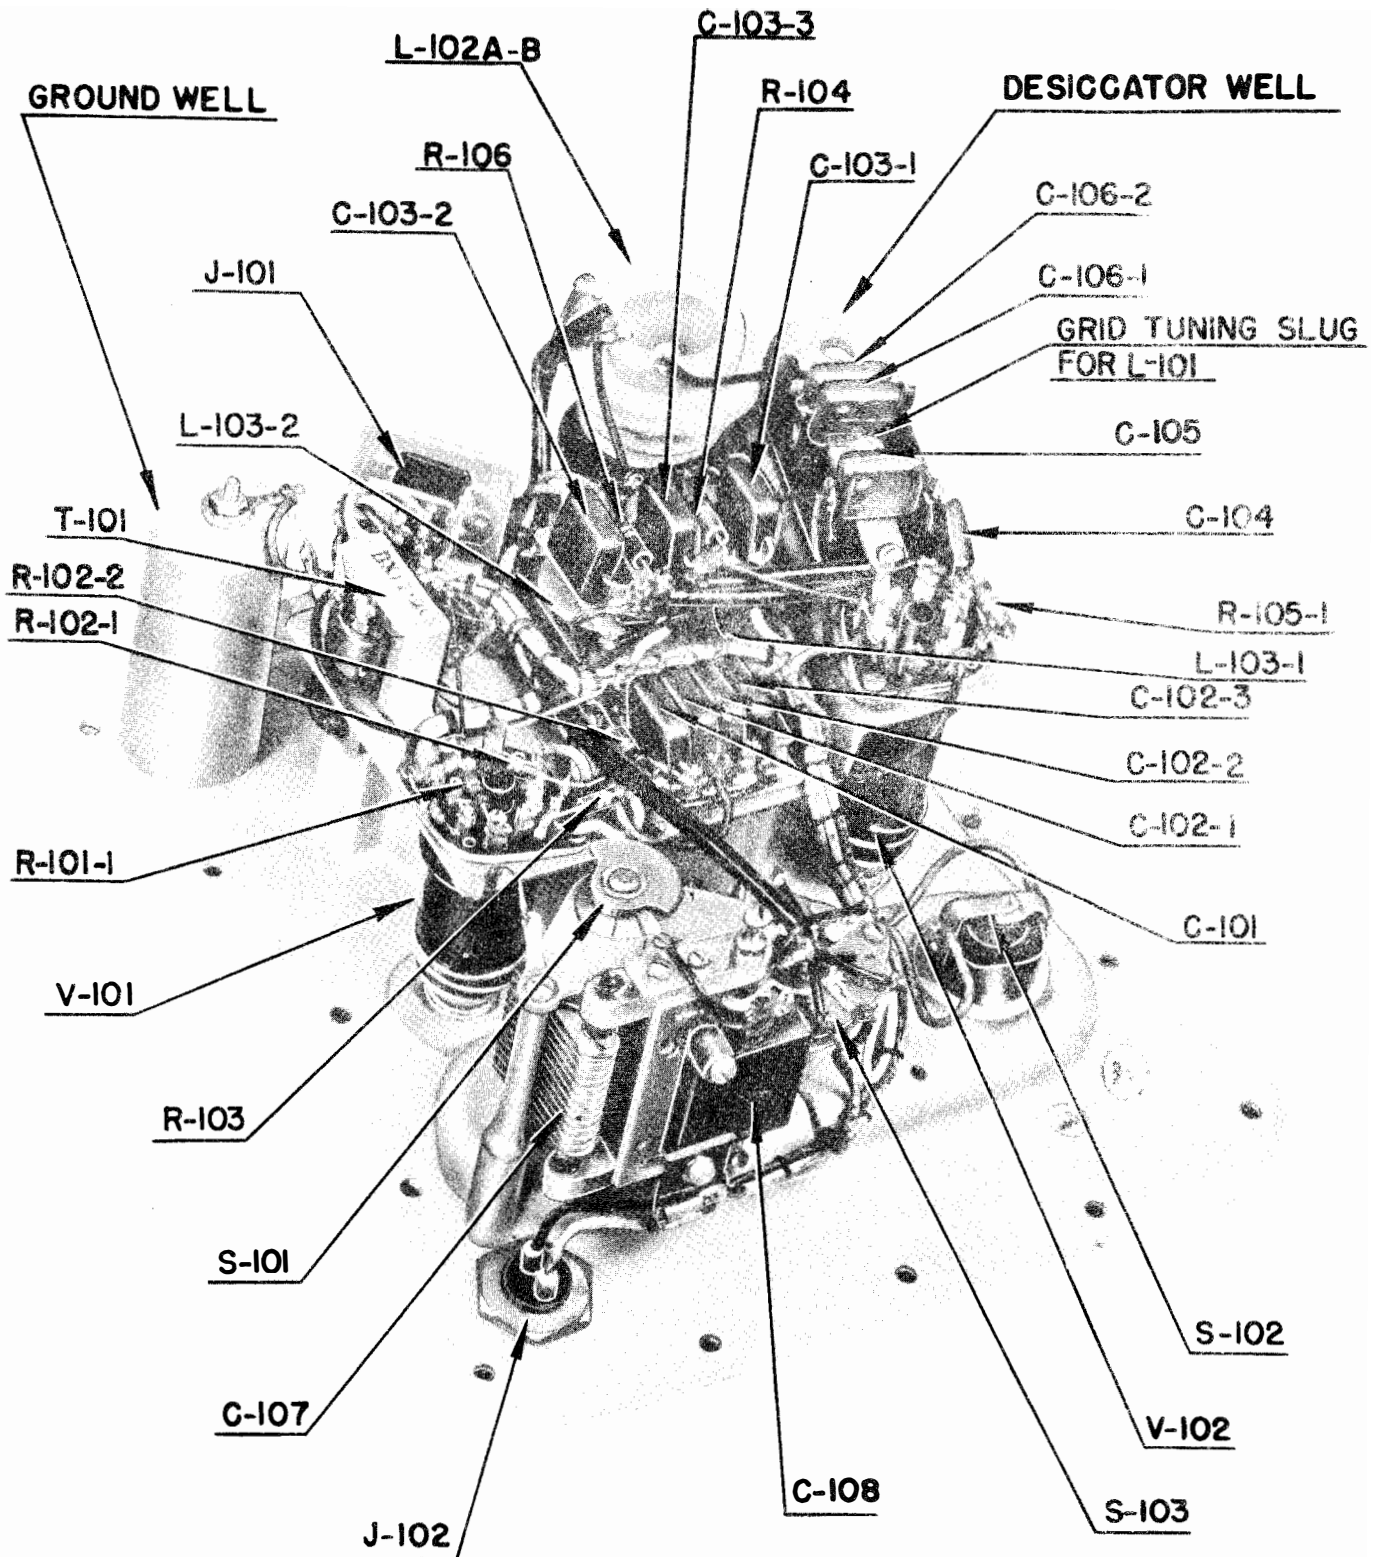

Figure 23—Radio Transmitter BC-778-B, BC-778-C, BC-778-D or BC-778-E, Parts Layout of Cover
c. Condenser 7 (see fig. 23) tunes the circuit to about 1000 cycles with the help of other circuit constants.